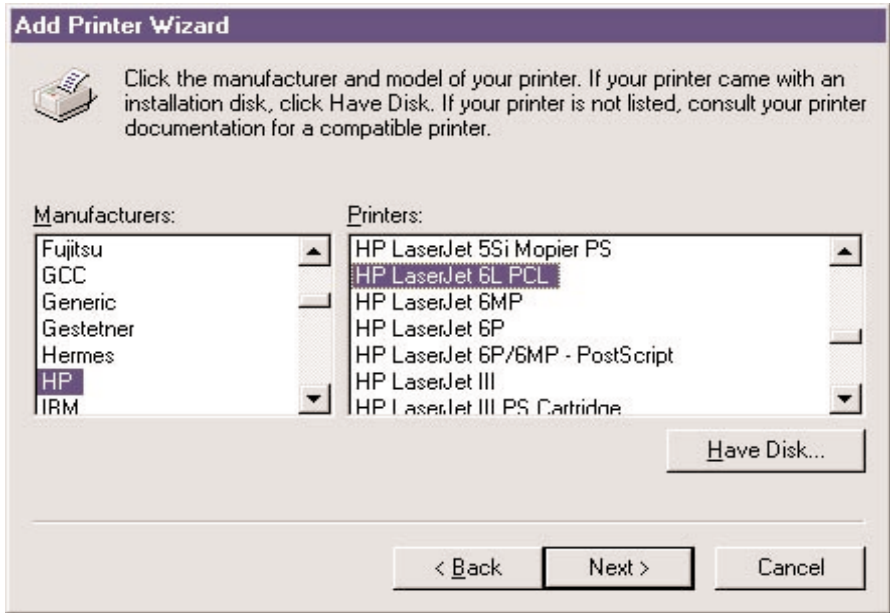

Figure 4-26. Selecting the printer manufacturer and model.
4. Select **Local printer**. To go back to the previous screen, click on the **Back** button. To cancel your changes, click on the **Cancel** button. To save the changes and go to the next screen, click on the **Next** button. Figure 4-26 appears.
To go back to the previous screen, click on the **Back** button in Figure 4-26. Click on the **Cancel** button to cancel your changes.